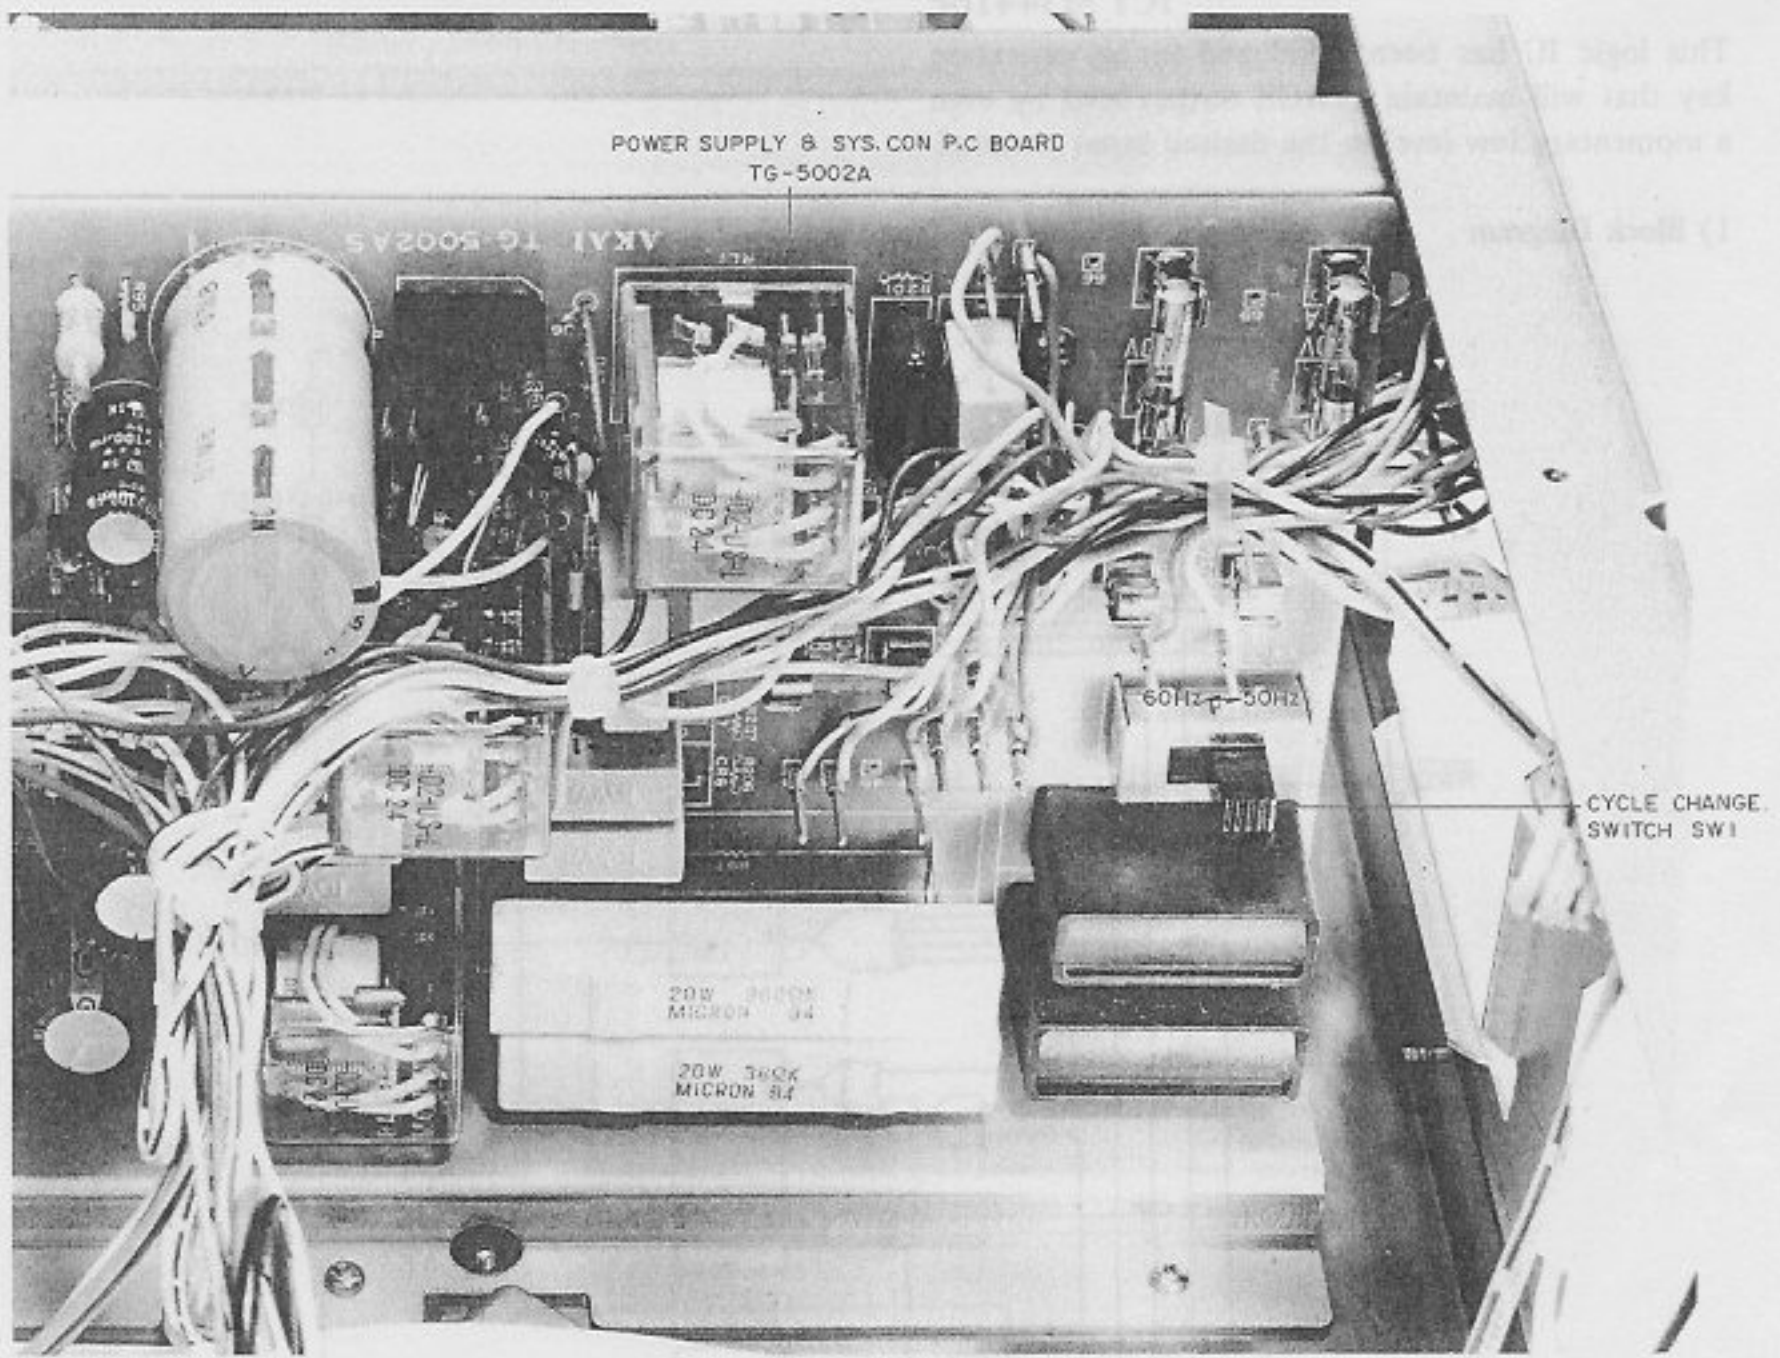

Fig. 5 Cycle Conversion (U/T Model Only)
2. CYCLE CONVERSION (Refer to Fig. 5)